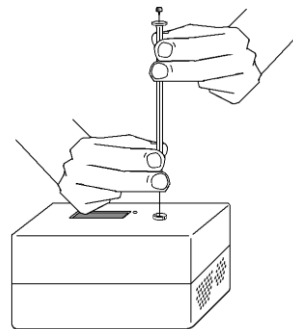

Figure 3
- To insert the needle of the syringe into the injection port of the Mini GC, hold the syringe with one hand and steady the needle with your other hand. Insert the needle into the injection port until the needle stop is fully seated, as shown in Figure 3. If the needle sticks, rotate it slightly while inserting. Do not move the plunger yet.